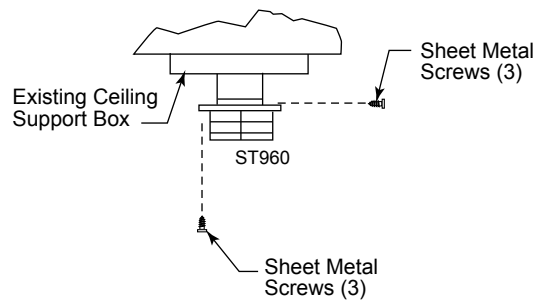

Figure 49
6. Push the flex pipe back up into the ceiling support box, center the retro connector and attach it to the support box or decorative sleeve for double wall solid packed pipe, with the sheet metal screws furnished. The holes in the retro connector are pre-punched. (Fig. 49)